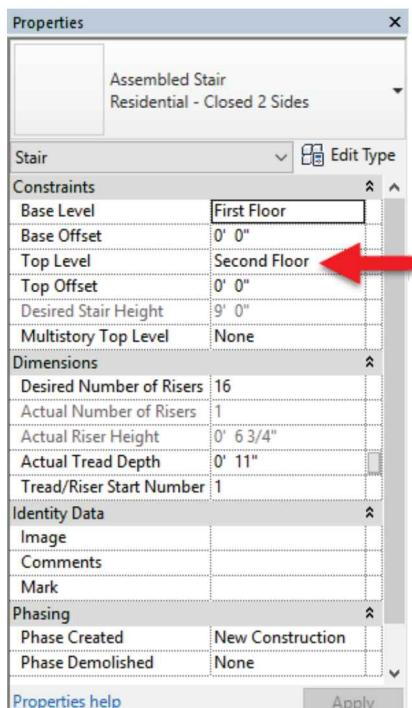

FIGURE 6-5.6 Stair instance properties
10. Notice the *Top Level* is set to **Second Floor** (Figure 6-5.6).